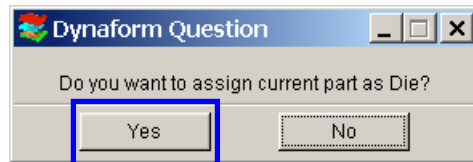

Figure 5.8
- Click **Yes** to assign the current part as Die (Figure 5.8)